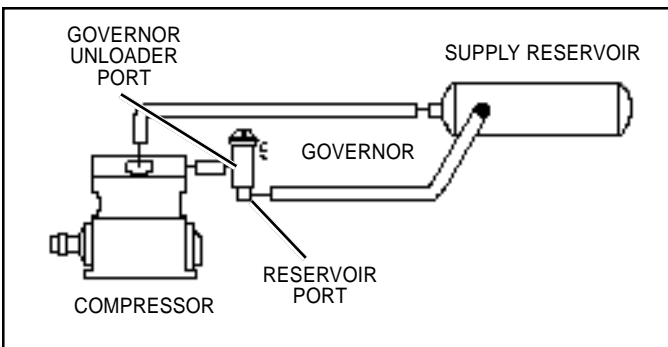

FIGURE 3 - BA-921 COMPRESSOR UNLOADER SYSTEM
1. Make certain the unloader system lines are connected as illustrated in figure 3.